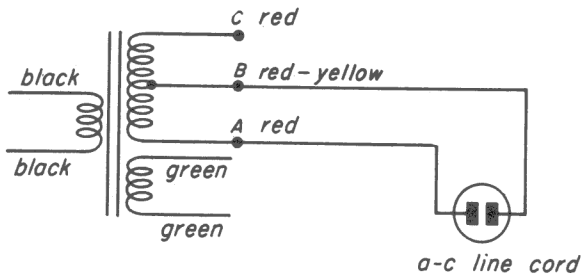

Fig. 13-8
Step 1. Connect one lead of the a-c line cord to one of the red leads of the high-voltage secondary of the power transformer. Connect the other line-cord lead to the center tap (red-yellow) lead of the transformer as shown in Fig. 13-8. Be careful that no two leads short together.